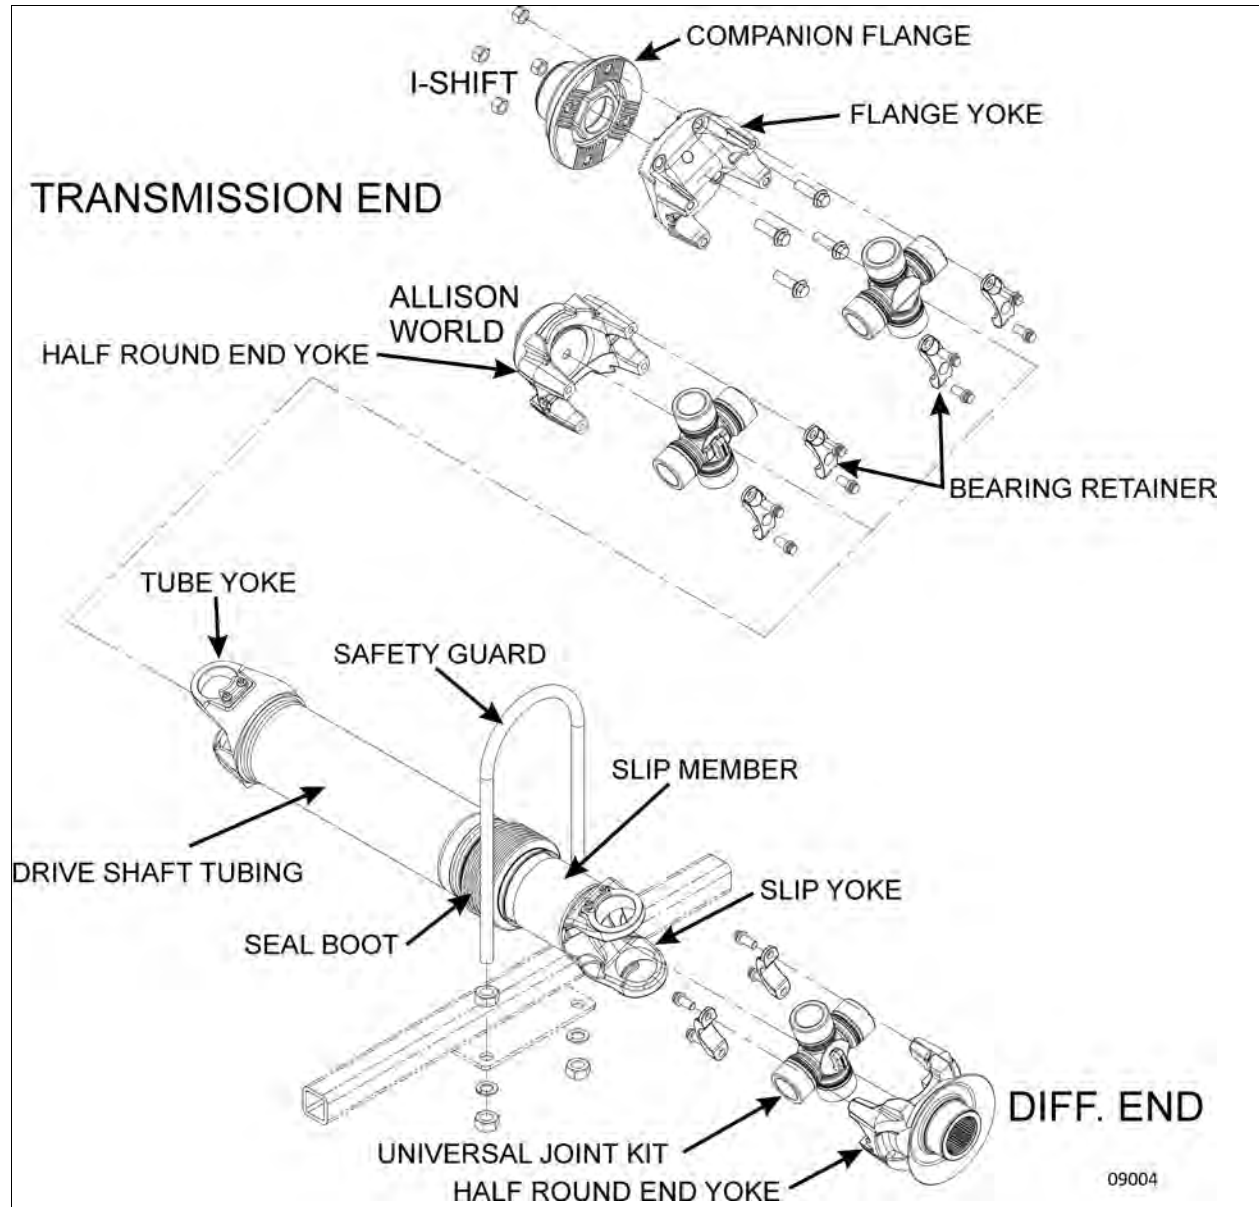

FIGURE 1: PROPELLER SHAFT ASSEMBLY (typical)
Spicer Life Series SPL250 type with tubular shafts. It is provided with two heavy-duty universal joints (FIGURE 1).
- **All universal joints securing hardware (bearing retainers and bearing retainers bolts, spring tabs and bolts) must be removed and replaced** using new OEM specified replacement parts (FIGURE 1 & Figure 2).